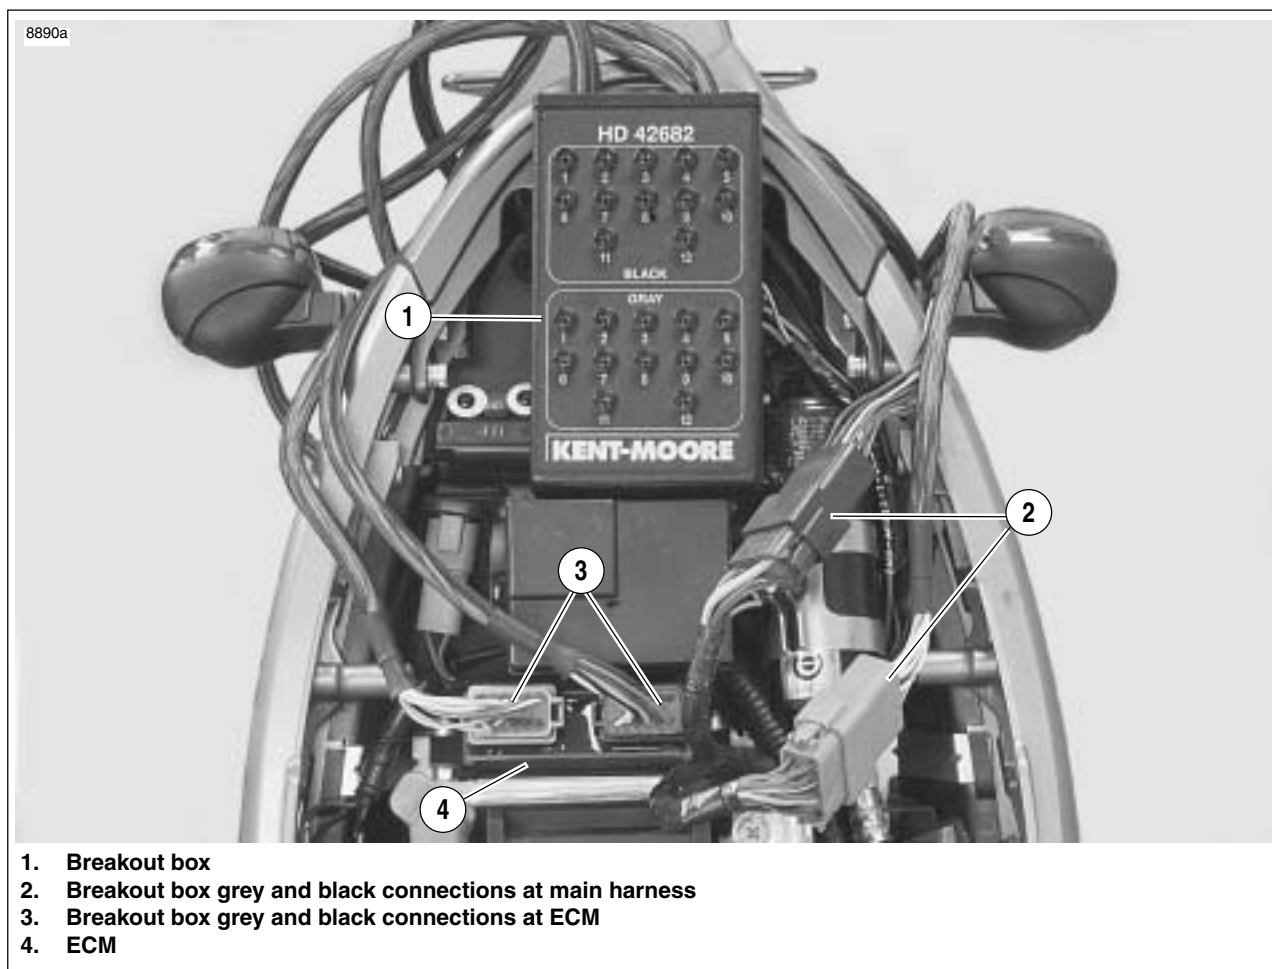

Figure 4-9. ECM and Breakout Box with Connections
3. See Figure 4-9. Attach Breakout Box (2) to black connector [10].
1. See Figure 4-9. Depress latches on each side of connectors [10] (black) and [11] (gray).